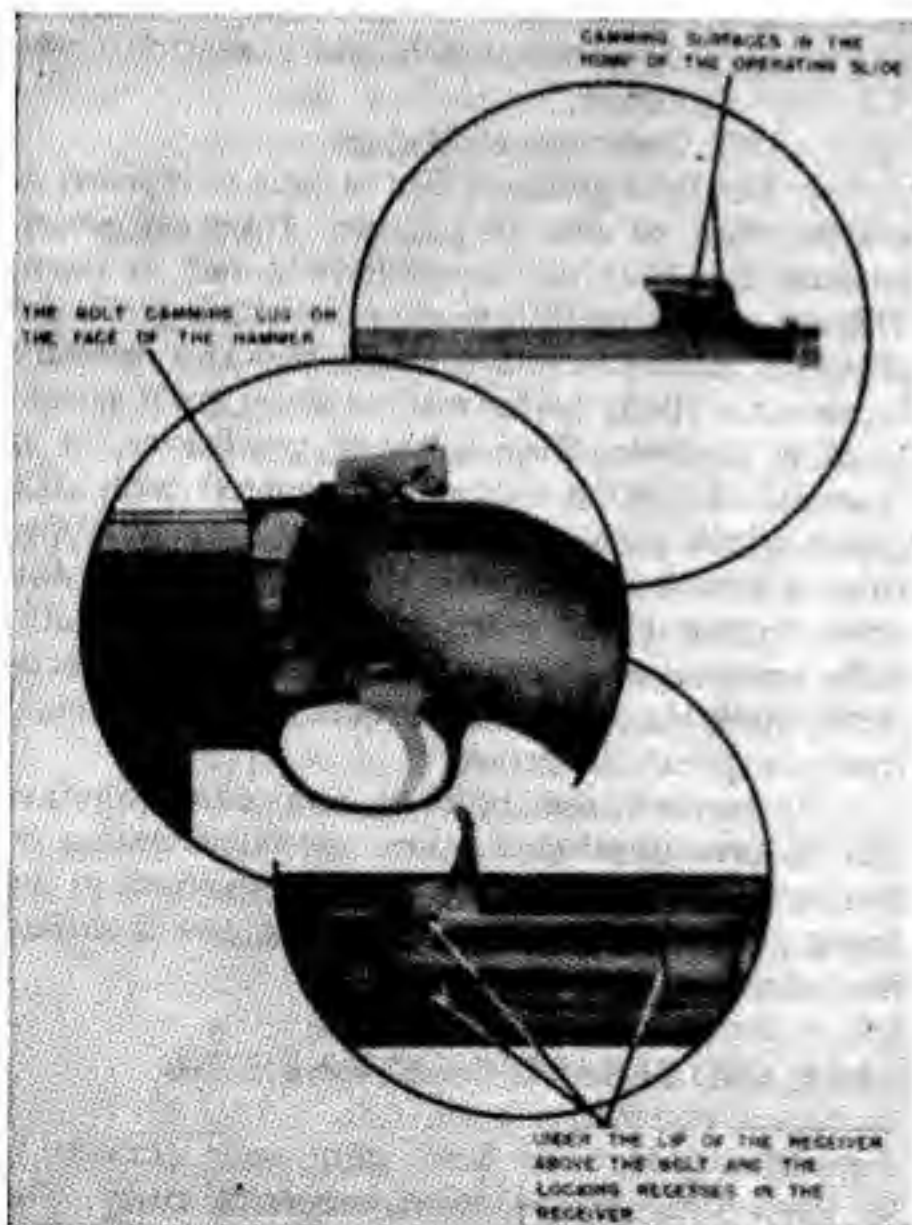

Figure 43b. Points on which to apply rifle grease.
- (3) Cocking cam on rear of bolt and firing pin tang recess.
- (4) Contact surface of barrel and operating slide.
- (5) Operating slide spring guide.
- (6) Operating slide handle grooves on side of the receiver.
- (7) Operating slide grooves in barrel.
- (8) Contacting surface of receiver and operating slide.
- (9) Cammed surfaces in the hump of the operating slide.
- (10) Piston.
- (11) Magazine catch and magazine catch plunger.
- (12) Operating slide stop.
e. Use rifle grease if the carbine is exposed to a great deal of rain or to spray from sea water, because the bolt may occasionally fail to open. This is caused by the friction resulting from the effect of the water and the fact that any ordinary lubricant is likely to be washed away from certain bearing surfaces. Under these conditions, it is essential that such surfaces be coated with rifle grease which resists the action of the water. Apply rifle grease to the parts shown in Figure 43b after wiping them clean and dry with a cloth. Rifle grease is not normally applied to other parts. After applying rifle grease, work the parts several times to spread the grease.
- (1) *Keep the bore and chamber clean.* Do not fire the carbine when dirt, mud, snow, or any other obstruction is in the bore. Such obstructions are extremely dangerous and may cause the barrel to swell or burst. Use a cleaning rod, if one is available, or the thong and brush which you should have. If these are not available, any slender rod or stiff wire can be used as a field expedient. Using any one of these, keep the bore and chamber clean and lightly oiled.
- (2) *Avoid excessive friction.* If the carbine shows signs of excessive friction due to lack of lubrication, apply oil to the parts that need it. If this friction is the result of dirt and there is no time to clean the carbine, use an extra amount of oil in the places needed. Friction is indicated if the empty cartridge cases are being ejected to the right rear or if the action of the bolt is sluggish. Apply oil at the first opportunity, as failure to chamber and eject will occur if the condition is not corrected.
- (3) *Use extra care under severe conditions.* If the carbine is to be exposed to severe conditions of rain or salt water, apply rifle grease. The points on which to apply this grease are shown in Figure 43b.